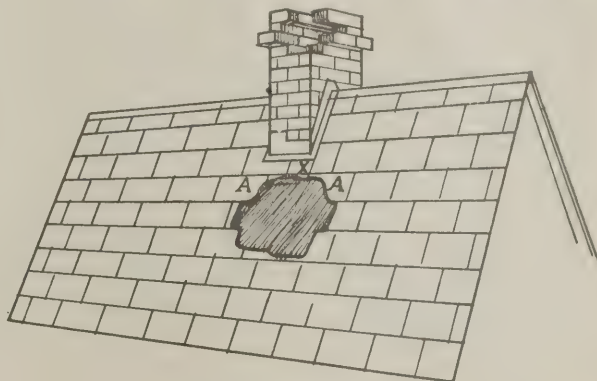
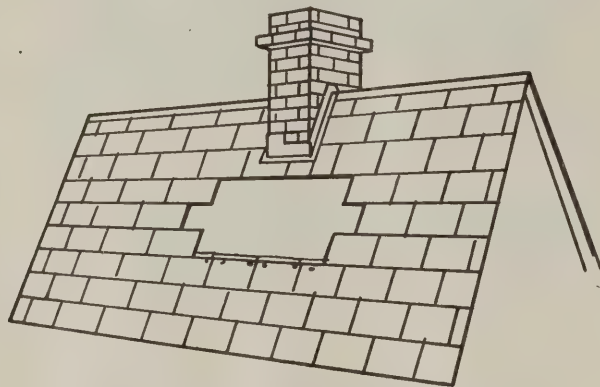
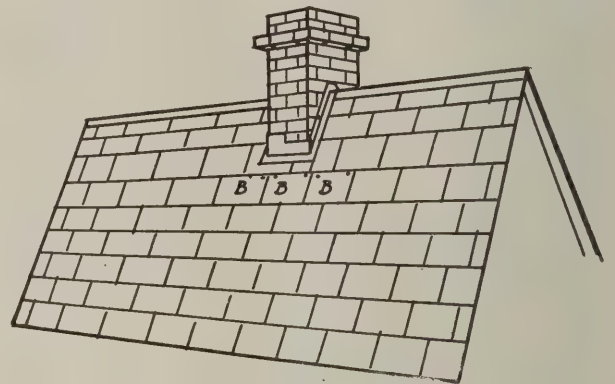

Fig. 20. Damaged roof
Fig. 21. Damaged shingles removed
Fig. 22. Roof repaired
*Accidental Damage, Repair, Etc.*—A roof laid with any of the several varieties of shingles in question is liable to damage by pieces falling from the chimney as indicated in Fig. 20, or by a limb from a
nearby tree, or other unforeseen accidents. However, such roofs may be repaired as readily as a roof of any other material, by first cleaning out all the broken or damaged pieces, commencing with the topmost damaged course, A, A, Fig. 20, which may be removed by cutting nails with a nail ripper, thus exposing nail heads of the course below, which may be drawn, then continue on down the roof as far as necessary. It is best to take up the small chimney shingles x also. When cleaned, as shown by Fig. 21, commence at the bottom and lay up in the ordinary way until the last course is reached, which is nailed up close to the butts of the course above as indicated at B, B, Fig. 22, showing only four nail heads exposed. These may be cemented over smoothly.